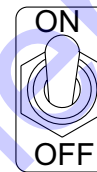

Figure 15. Electric Motor ON/OFF Switch (ON)
2. Set the electric motor's ON/OFF switch (Figure 15) to the ON position.